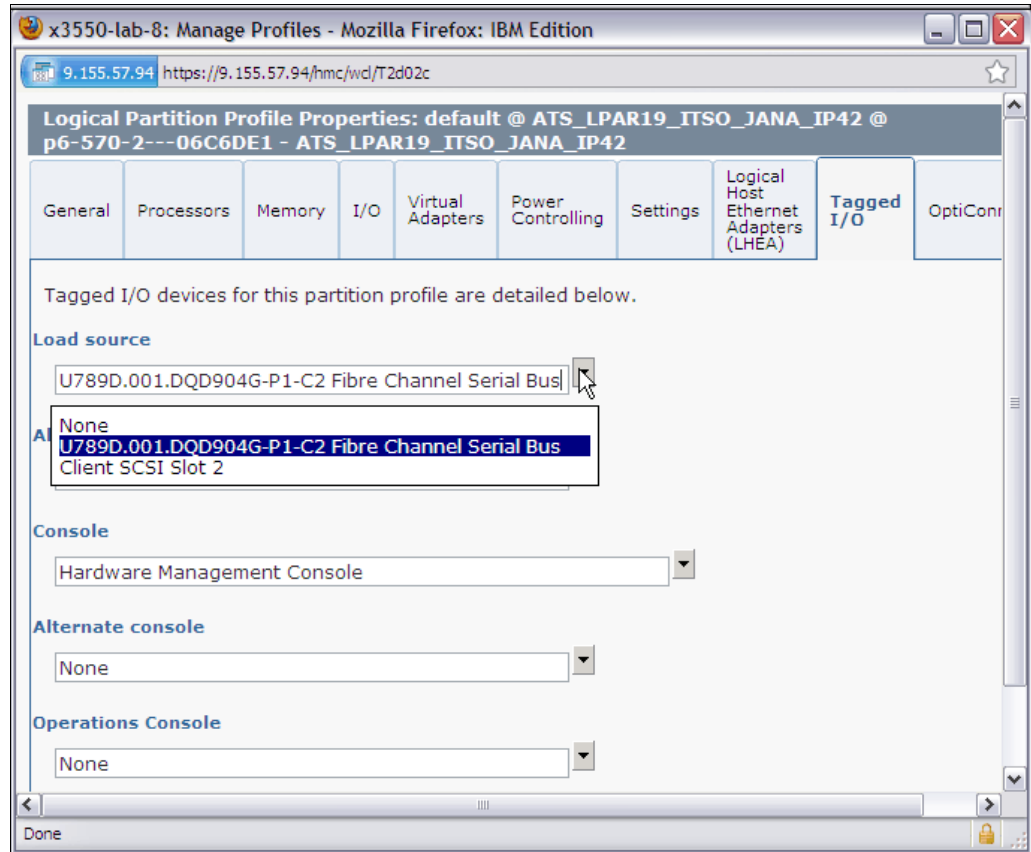

Figure 11-29 HMC: Select the adapter that connects external Load Source
3. Select the table **Tagged I/O** and expand the pull-down menu under Load source (Figure 11-29). Select the adapter that connects the boot from SAN volume. This figure shows an example of tagging an 8 GB IOP-less Fibre Channel adapter through the load source that is connected.